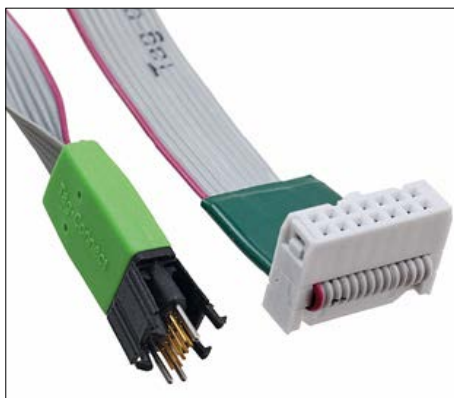

Figure 3. A Tag Connect TC2050-IDC uses a number of PCB pads to make the connections for programming. Source: Tag-Connect LLC
- **Tag Connect TC2050-IDC (J7).** If you have not come across Tag-Connect you are in for a treat [3]. It is described as a "plug of nails" and allows you to use the zero-cost-per-PCB pads method, but still provides a robust connection both for development and production (Figure 3).